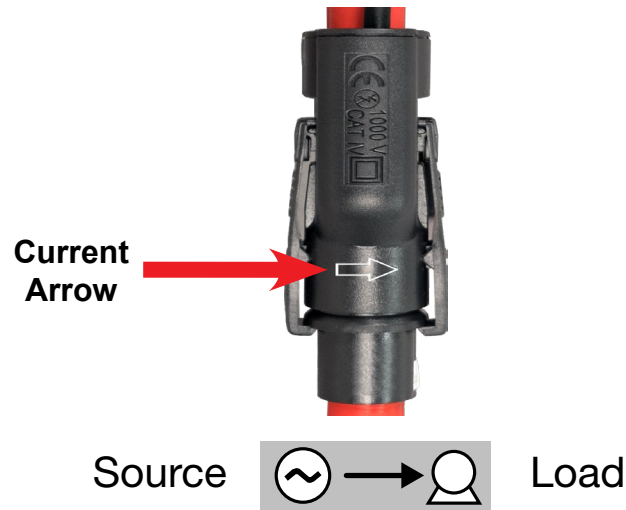

Figure 15
- **An icon** showing the direction toward the load, as shown in Figure 15.